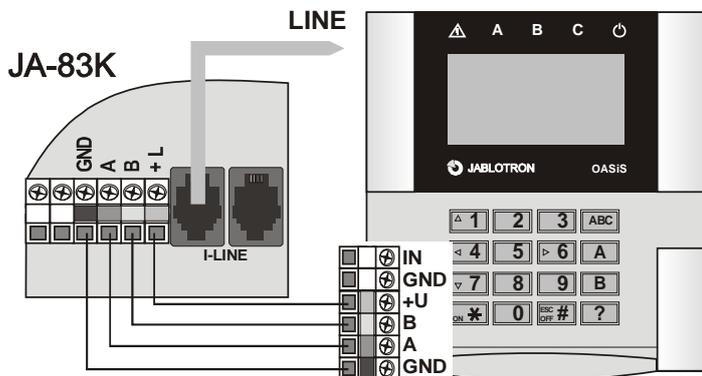

fig. 1 Connection with the control panel
- o Use a **flat four-wire telephone cable** with RJ connectors (max. 10 metres) but only for **temporary (test) installation**. There is a digital bus connector called **LINE** in the control panel, and in the keypad too. See fig. 1.